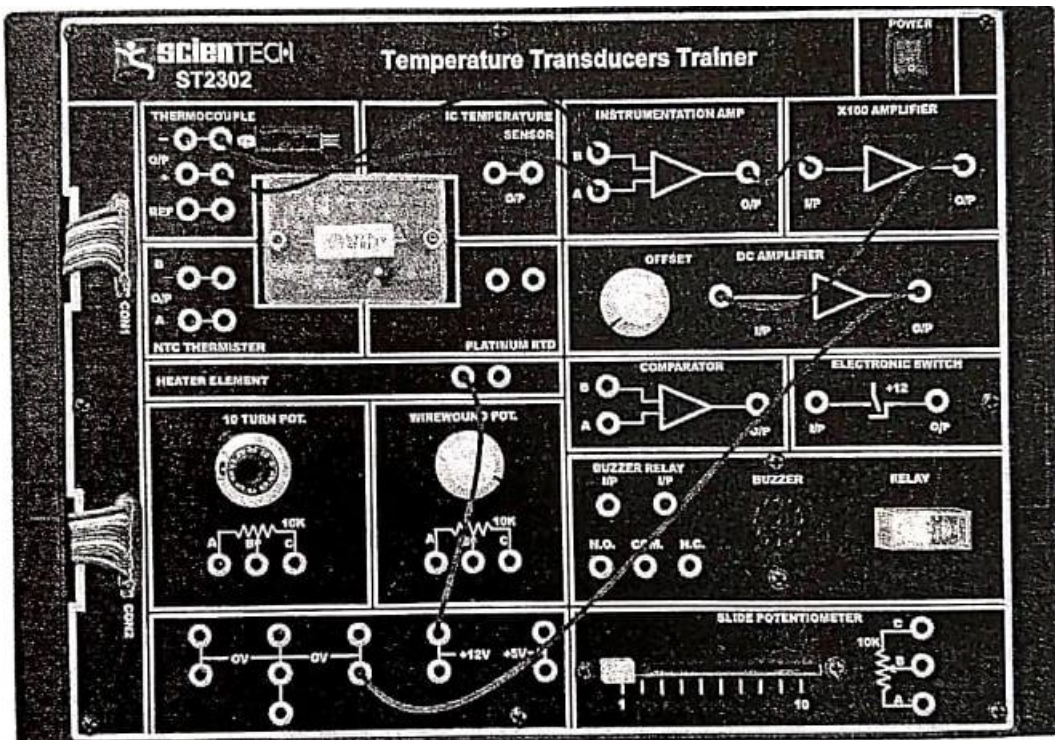

Figure 9(E).1
1. Connect the circuit as shown in Figure 9(E).